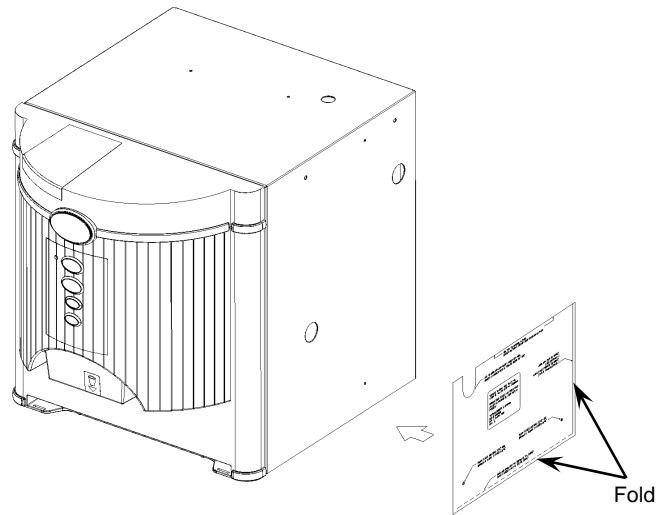

Figure 1 – Cut, fold and align the template.
3. Align the template with the lower hole on the right side wall of the Piccolina, and with the bottom and the rear of the machine (*figure 1*).